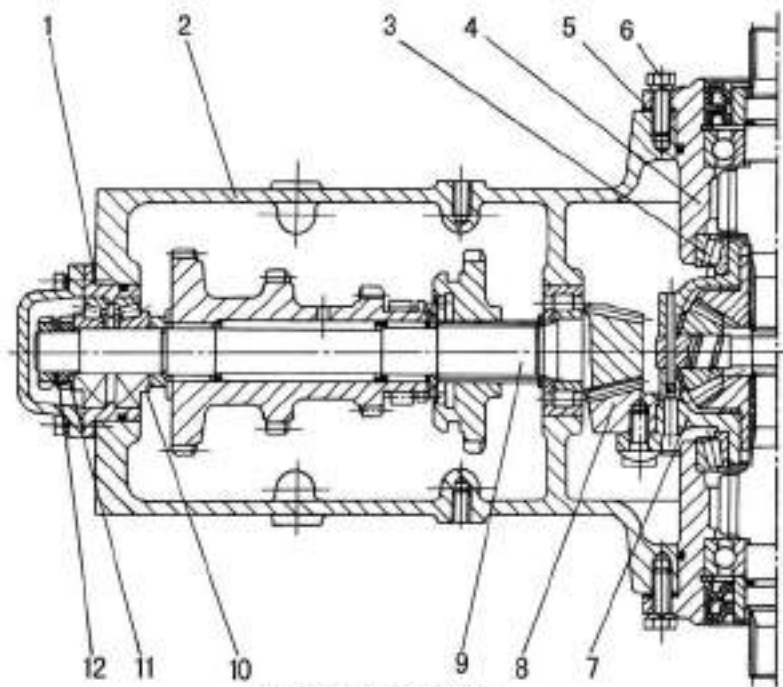

Fig.4-3 Main drive
During assembling there should be some preload on two conical bearings (3) 2007111 (on two ends of differential) and two conical bearing 27305(10) (on second shaft) (Fig.4-3) for
Reduce adjusting shim (1) of second shaft to make bevel pinion move backward. See Fig.4-3.